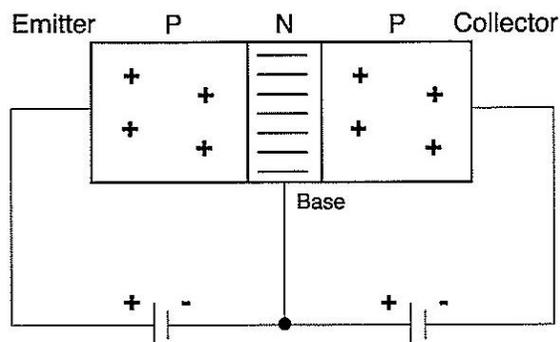

Figure 10.11: Transistor
10-65 A **transistor** consists of two junction diodes joined back-to-back. An example is shown in Figure 10.11. When forward bias is applied to the junction on the left, electrons move from the *n-type* material to the *p-type* material. Holes move in the opposite direction.
10-67 When the junction at the right is *reverse* biased, as shown in Figure 10.11, you would expect very little current to flow. But the additional holes made available from the left-hand junction travel toward the right, providing a significant current.
- 10-74 The *junction transistor*, like the one shown in Figure 10.11, can be made in two ways. In one, the base is *n-type* material, and in the other the base is *p-type* material. The first kind is called a *pnp* transistor, and the second is an *npn* transistor.